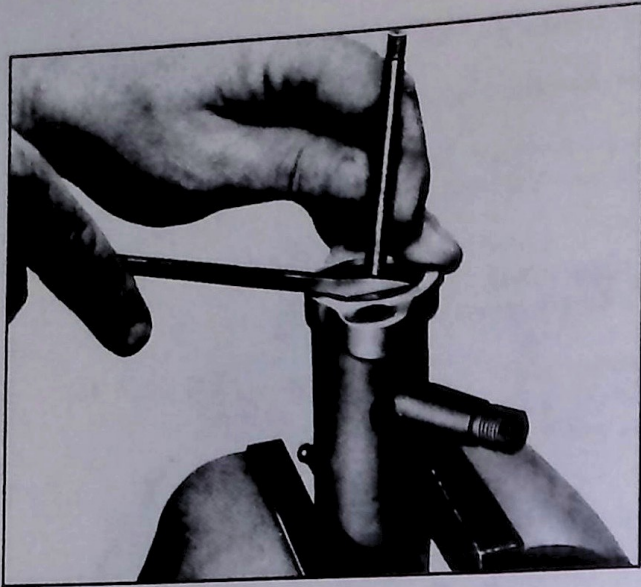

Fig. 67—Turning Adjuster Plug out of Sleeve
8. Carefully, so as not to nick the top surface, turn adjuster plug out of sleeve (fig. 67).